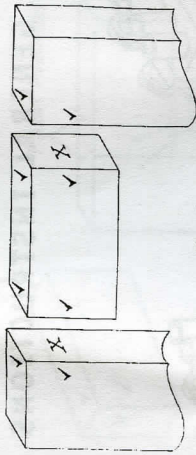

Fig. 4
**TO CREATE ACCURATE AND STRONG JOINTS FOR A CONFIGURATION AS SHOWN ON FIG. 4, PROCEED WITH INSTRUCTIONS BELOW.**